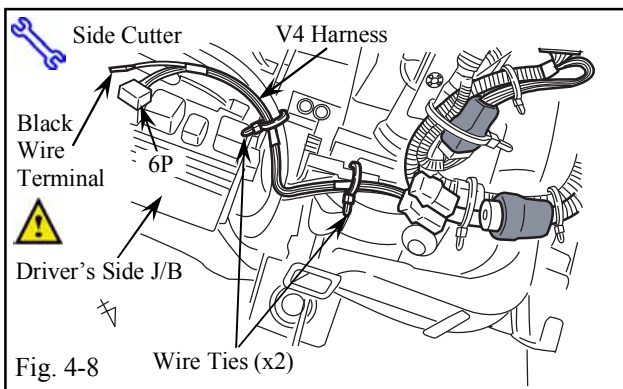

Fig. 4-8
- (k) Route the V4 Harness Black Wires toward the Driver's Side J/B Area. (Fig. 4-8)
- (l) Use 2 Wire Ties to secure the V4 Harness Black Wires to the Vehicle Harness. (Fig. 4-8)